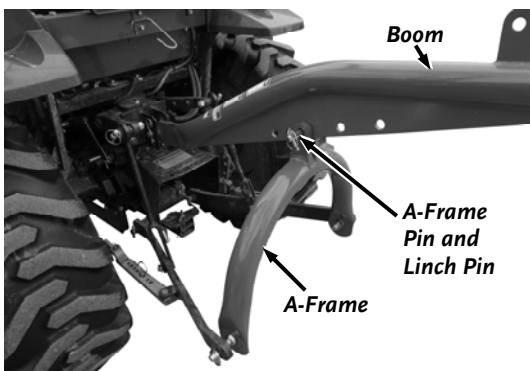

Figure 8
4. Rotate the A-Frame up and secure it to the Boom using the A-Frame Pin and Linch Pin (**Figure 8**). The Hole on the Boom which the A-Frame is secured to will depend on your tractors geometry and the Height Setting desired. It may be changed later if needed.